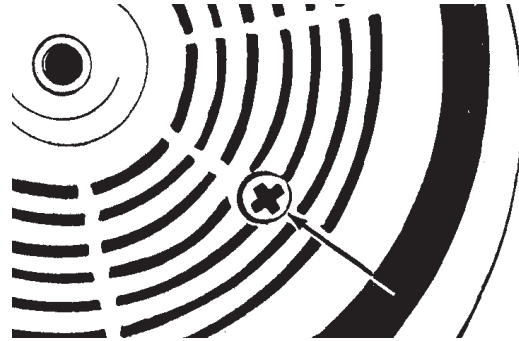

Figure 9
3. Align both holes with one of the three screws in the gear housing cover. Remove the screw from the gear housing cover. (Figure 9)